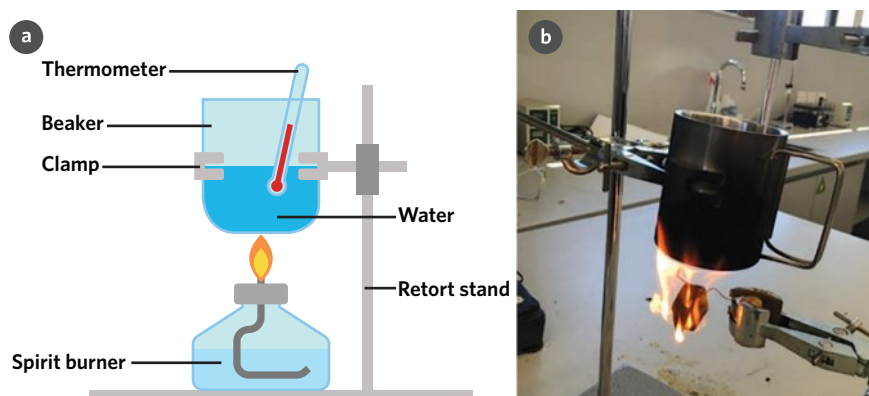

Figure 1 Apparatus for using water to estimate heat released by (a) a liquid fuel, and (b) a food sample
1. Set up apparatus as shown in figure 1.